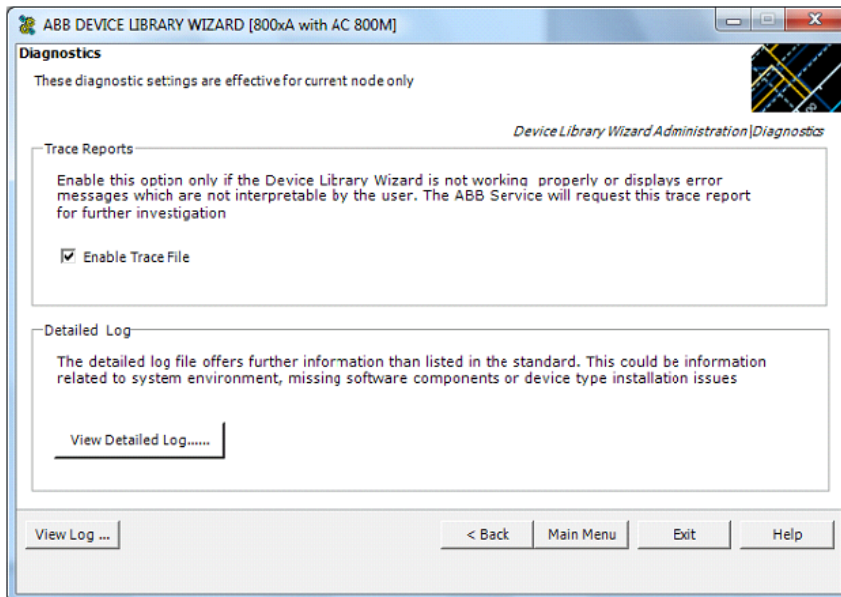

Figure 14. Enabling the Trace File
2. Select the **Enable Trace File** check box as shown in Figure 14.